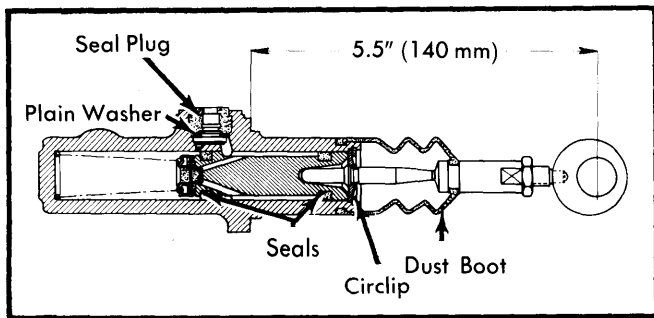

Fig. 3 Sectional View of Clutch Master Cylinder
2) Insert master cylinder push rod and adjust length to approximately 5.5" (140 mm). See Fig. 3.